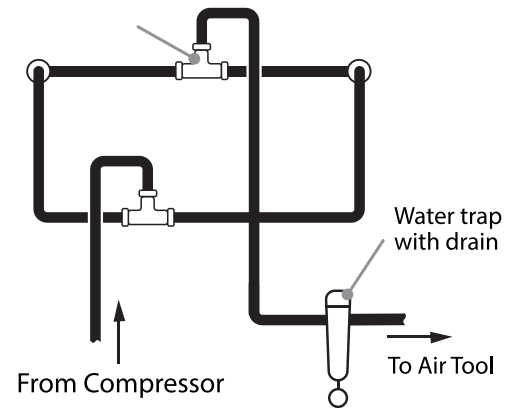

Figure 3: Closed Loop Installation
4. Install appropriate ASME code safety valves and make sure piping system is equipped with adequate condensate drains. See figure 2. Refer to figure 3 for recommended closed loop installation.